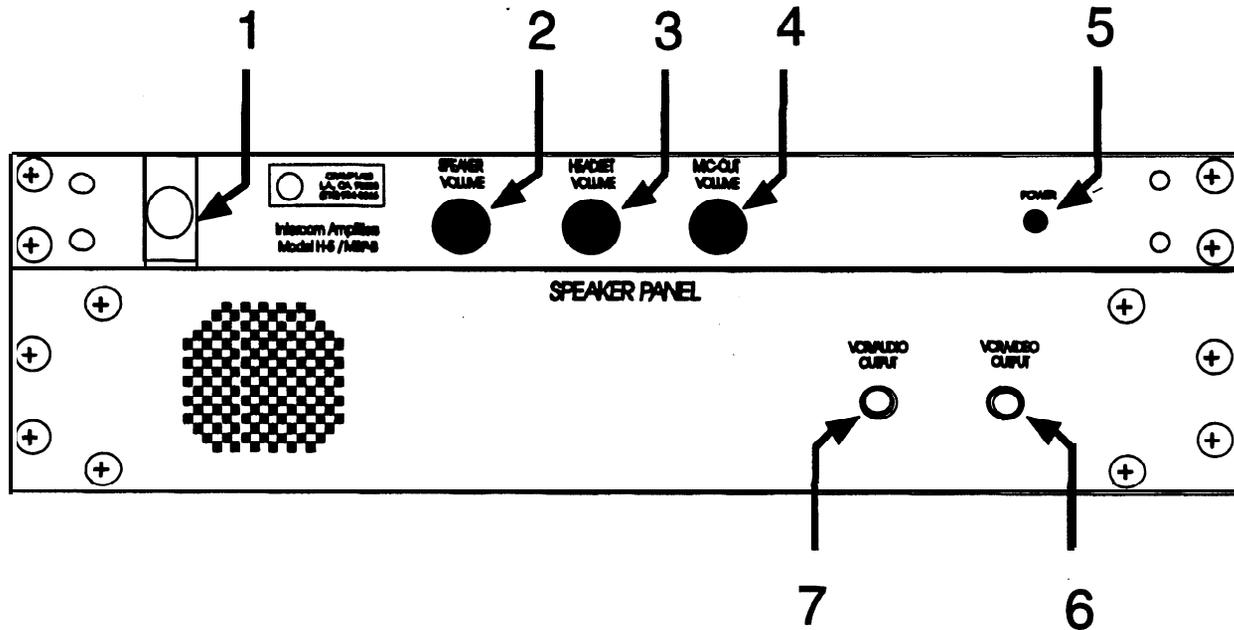

Figure 2-6. Audio Preamp Mixer Unit (TD 17/162A)
2.1.6 Audio Preamp Mixer Unit. The Audio Preamp Mixer Unit (Figure 2-6 and 2-6a), located directly above the Peavey S/P unit, generates the tank sounds that accompany simulated exercises.